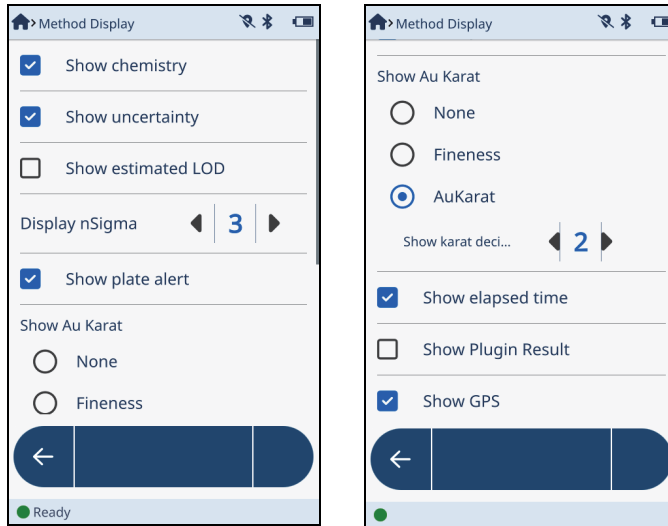

Figure 2-22 Method Display screen: Page 1 (left), page 2 (right)
- On the **Method Display** screen for the Precious Metals mode, **Show chemistry**, **Show uncertainty**, **Show plate alert**, and **Show Au Karat > AuKarat > Show Au Karat decimal** are selected (see Figure 2-22 on page 42).